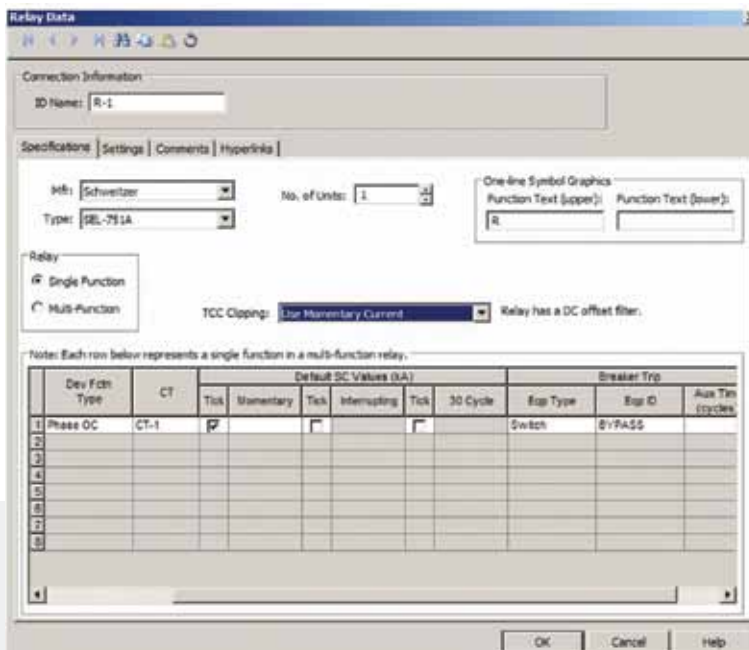

Figure 6a. Example of relay settings for controlling the MVCF.
**Step 6.** In the example, the relay connected to the CT installed on the transformer secondary needs to be set to control the bypass switch S-1. Use the the relay dialog box on the specification tab (see Figures 6a and 6b).